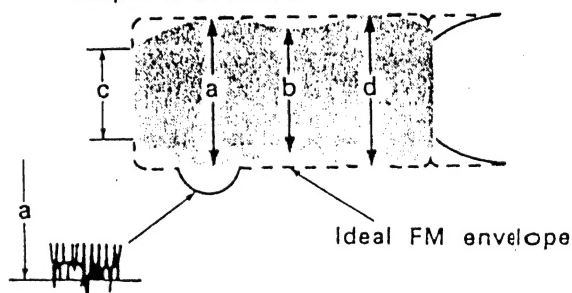
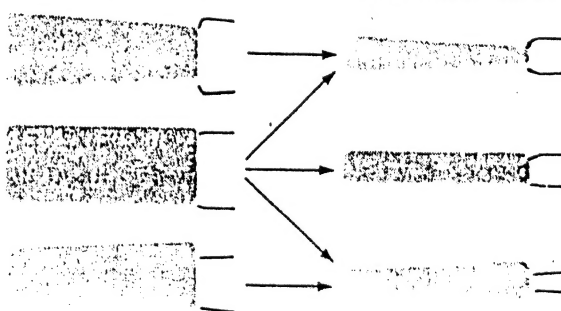

Fig.15 FM waveform (max. output)
Fig.16 Normal waveform examples
- Refer to Fig.15. Read the level of portion (a) of the waveform. If the waveform is serrated at point (a), read the value at the most uniform serrations as shown above in Fig.16.
- Observe the FM waveform as in the previous section (I-A) and turn the Tracking control. The waveform variation should be nearly parallel as shown in Fig.16.